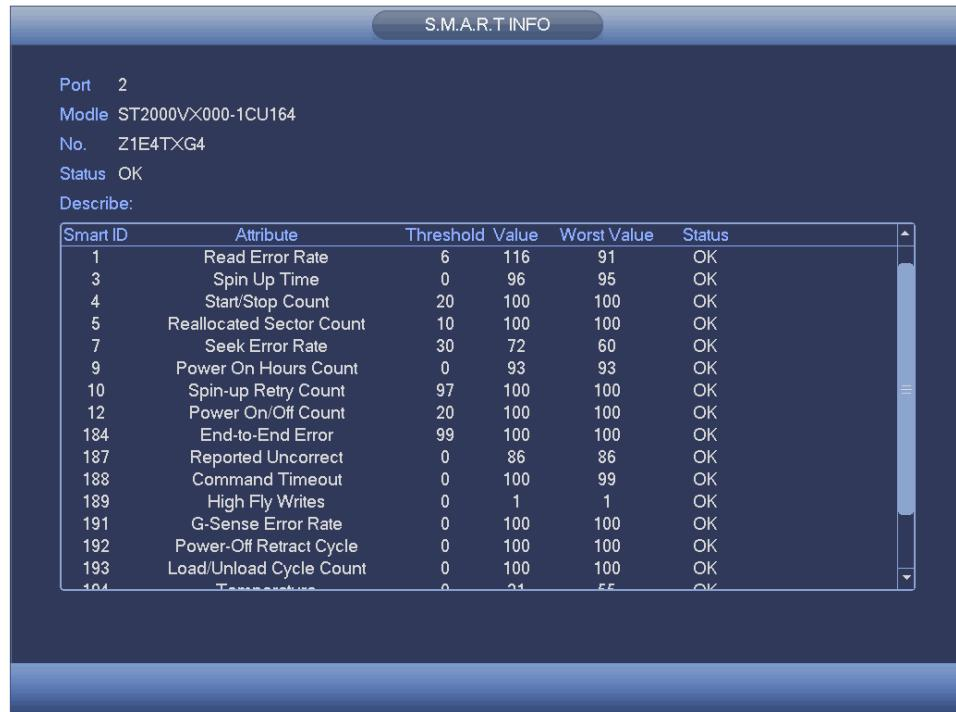

Figure 4-50
- SMART: Display HDD information. See Figure 4-50.
Double click one HDD information; you can see the HDD SMART information. . See Figure 4-50.